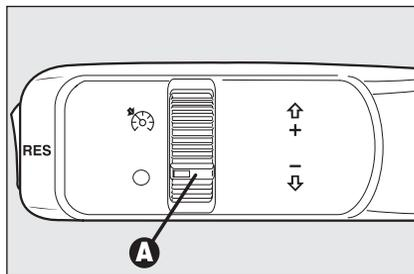

fig. 57
Turn knurled ring **A-fig. 57** to .
- turn the knurled ring **A-fig. 57** to  and press the accelerator pedal to the required speed;
- ❑ turning the knurled ring **A-fig. 57** to **O**;
*In the event of device malfunction or failure, turn the knurled ring **A**-fig. 57 to **O** and contact Alfa Romeo Authorized Services after checking the protection fuse integrity.*